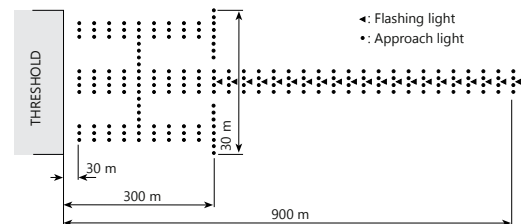

Fig. 5 CAT. II/III
- to supplement steady burning, CAT. I, II or III ICAO approach systems (Fig. 5)